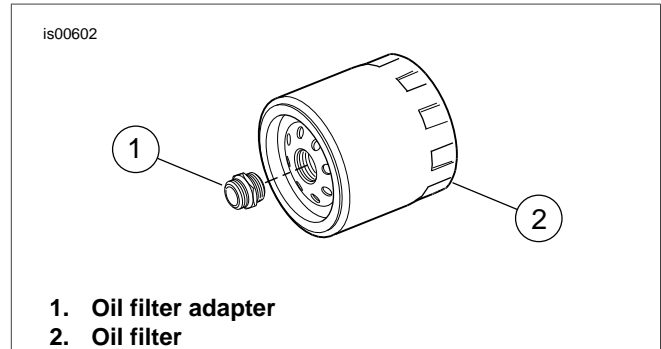

Figure 1. Oil Filter and Adapter
1. See Figure 1. Remove the spin-on oil filter (2) and oil adapter mounting fitting (1) from oil filter mount location. Clean the oil filter mounting area thoroughly. Discard oil filter adapter.